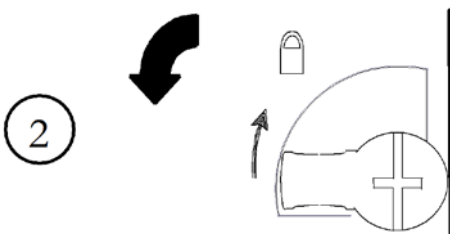

Figure 18: Rotate Latch to Unlocked Position
- 2) Turn the latch to the unlocked position (counter clockwise) as illustrated (Figure 18).